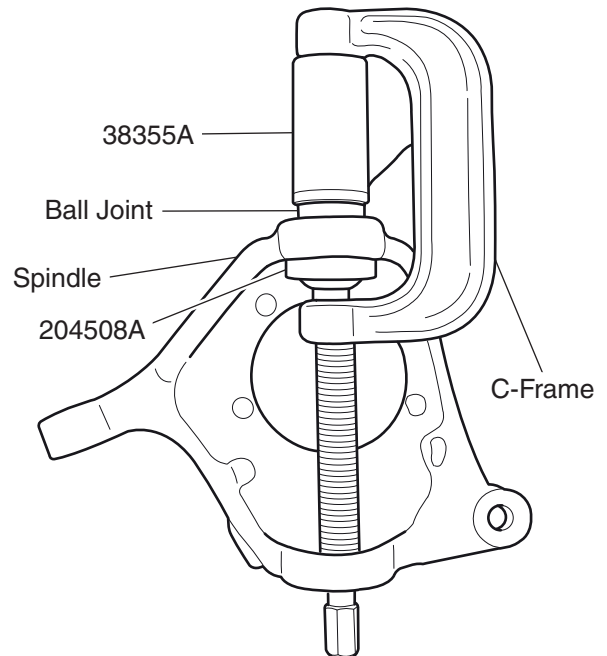

Figure 2. Ball Joint Installation
3. Position 38355A (or 305227 and 29505) on the ball joint as shown in Figure 2.